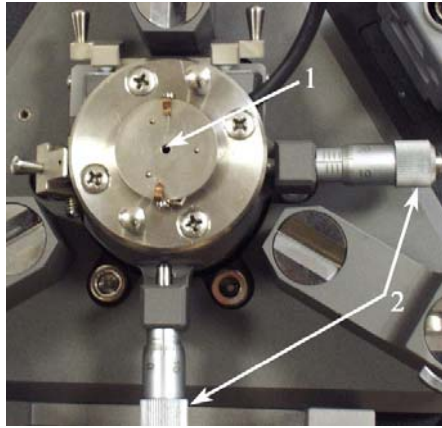

Fig. 2-13.
3. Looking at the head from above, use the positioning system micrometer screws to align the probe with the scanner axis (Fig. 2-13).